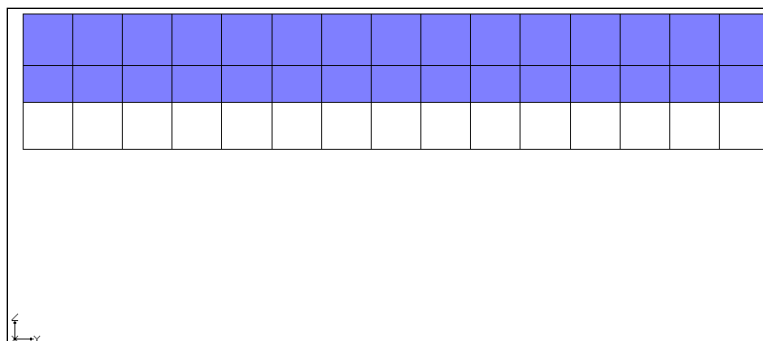

Figure 3 Highlight the first two layers
3. Drag a box around all of the cells in the top two layers of the grid to highlight them (Figure 3).